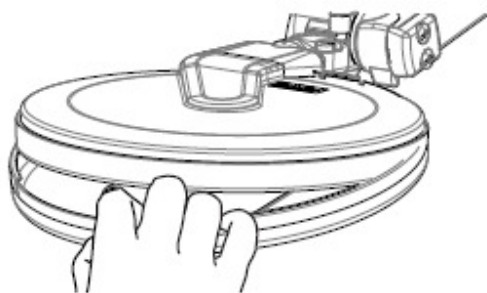

Figure 48: Replacing the Skid Plate
- Move around the circumference of the coil using fingers to lever the skid plate away from the coil. Insert additional match sticks to stop the skid plate from re-attaching to the coil. The skid plate can then be removed from the coil. Figure 48.